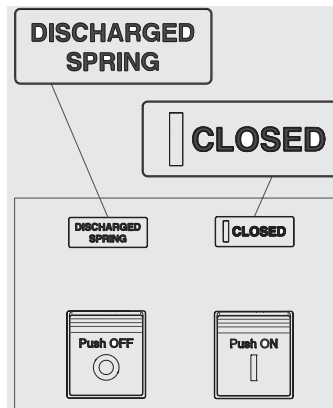

Figure 27
3. Circuit-breaker closed with springs discharged (see Figure 27).